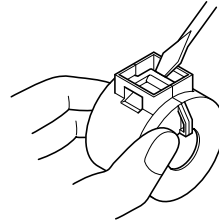

Fig. 3-1
- Ferrite core is packed so it is open, as shown in Fig. 3-2. If you find that a ferrite core is not open, use a pointed object to pry the plastic lock of the ferrite core apart (Fig. 3-1). When you do this, take care not to damage the ferrite core or the plastic lock.